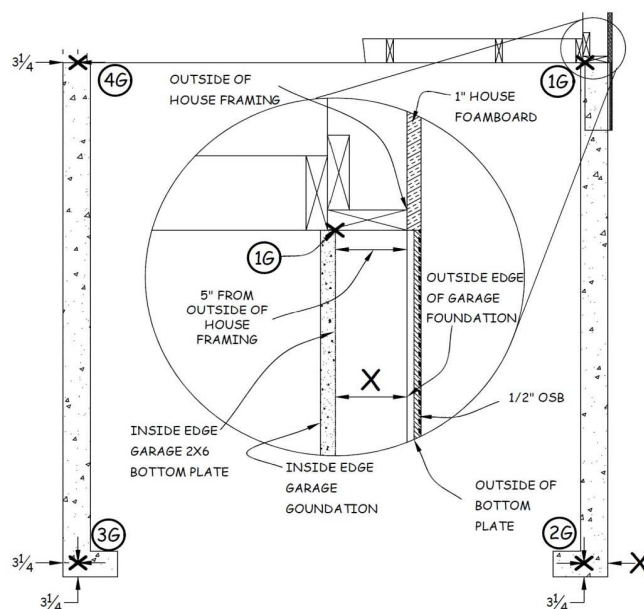

Figure 23-2. Garage Sill Plate Chalk Lines After House Walls.
2. At the wall common with the exterior house wall, determine the location of the outside of the house framing. Measure 5" in toward the garage interior and make a mark on the garage foundation where it touches the house wall (see detail in Figure 23-2). This establishes Point 1G. Measure from Point 1G to the outside of the curb, **X** in Figure 23-2. Establish Point 2G at the other end of the garage wall by measuring **X**" in from the outside of the curb, and $3\frac{1}{4}$ " in from the front of the curb. Establish Points 3G and 4G as shown in Figure 23-2.